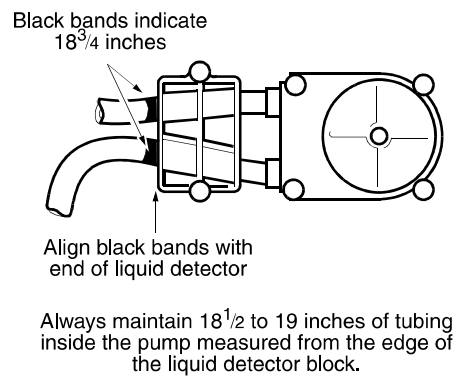

Figure 3-1 Pump Tube Installation
1. The pump tube is marked with two black bands. Facing the liquid detector, place the end band against the upper inlet of the detector and the inner band at the outlet. See Figure 3-1.